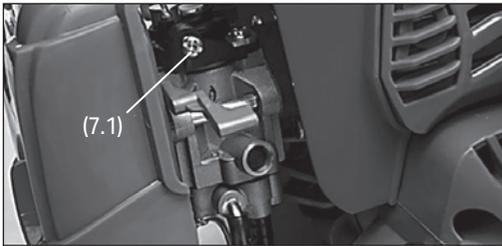

Fig.41
12.4 Engine Idle Speed Adjustment (Fig.41)